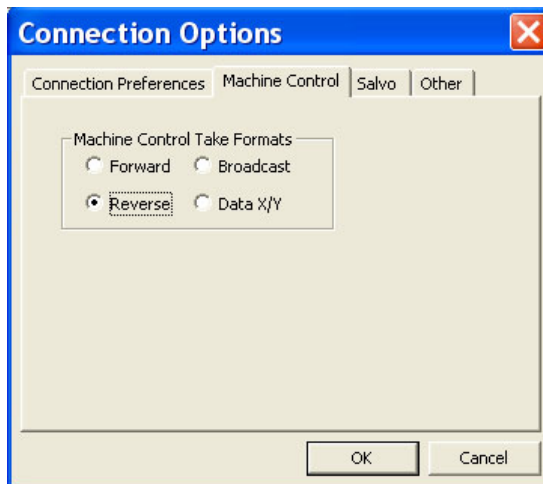

Figure 11-4. Connections Options Dialog Box with Connection Preference Tab in Front
- 4 Select the 'Machine Control' tab to bring it to the front, as shown in Figure 11-4.